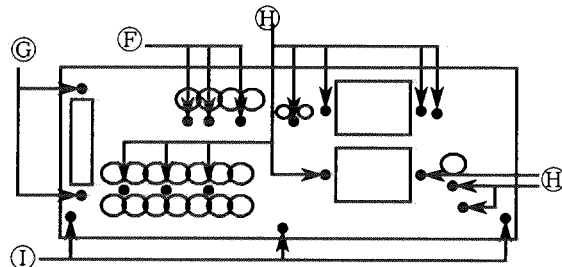

FIG.3 Rear side
2. Remove 20 screws (F),(G),(H) and (I). (FIG.3)
2. Remove 2 screws (C).(FIG.3)
3. Remove 3 screws (L).(FIG.3)